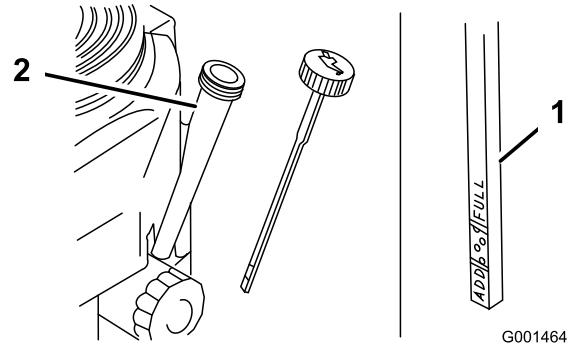

Figure 32
- Clean around the oil dipstick (Figure 32) so that dirt cannot fall into the filler hole and damage the engine.
8. Slowly pour approximately 80% of the specified oil into the filler tube (Figure 32).